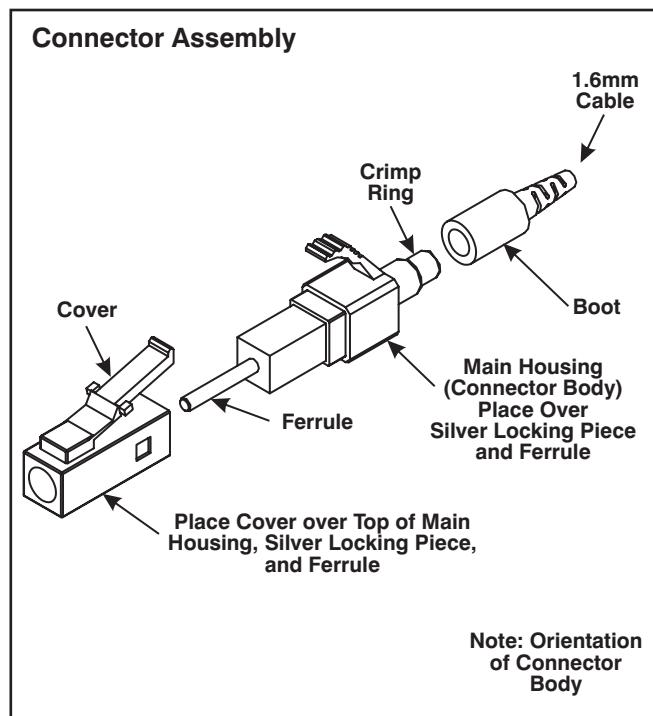

FIGURE 4 FINAL ASSEMBLY
- 4.01 Place cover with small end over main housing (See Figure 4). Make sure to line up housing and cover properly (see below). Slide boot up and snap into place.